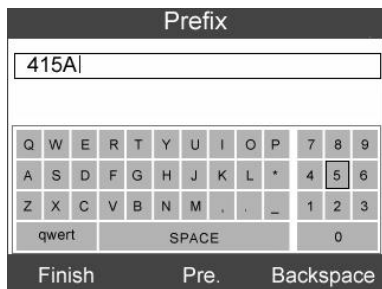

Figure 11.8
**[Edit]**: Press this key to pop up a soft keyboard to facilitate your input. (Figure 11.8)